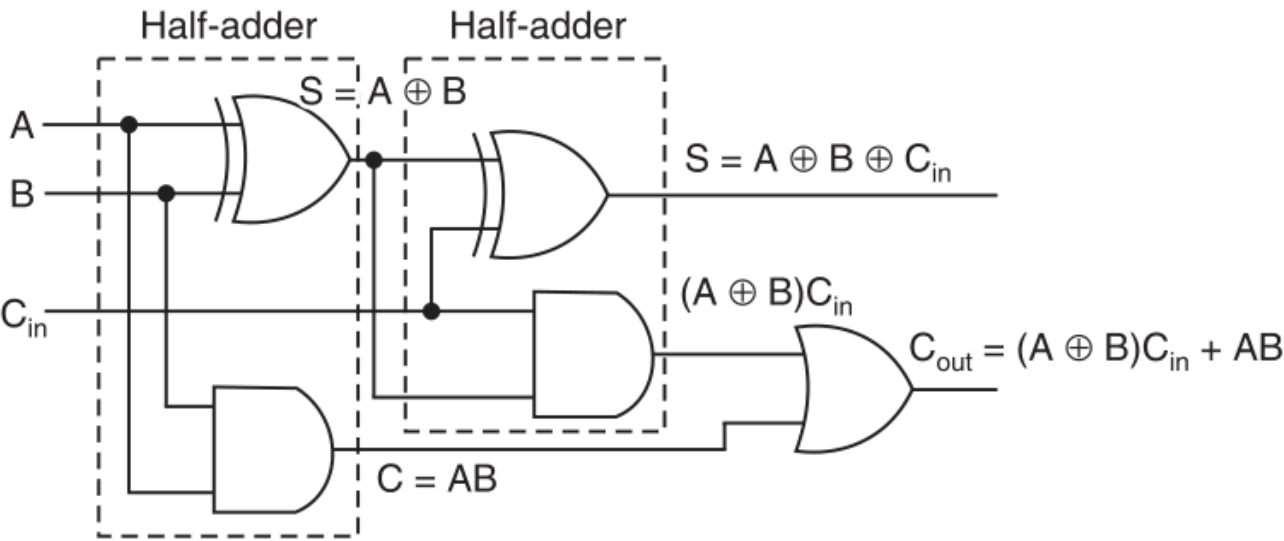

Figure 7.7 Logic diagram of a full-adder using two half-adders.
- **Realization Using Two Half Adders (Kumar, p. 361, Figure 7.7):**